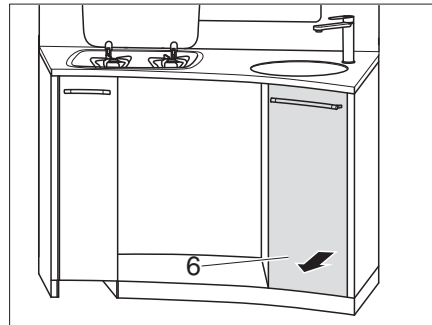

Fig. 129 Removing high kitchen drawers
- Remove the high kitchen drawer (Fig. 129,6).